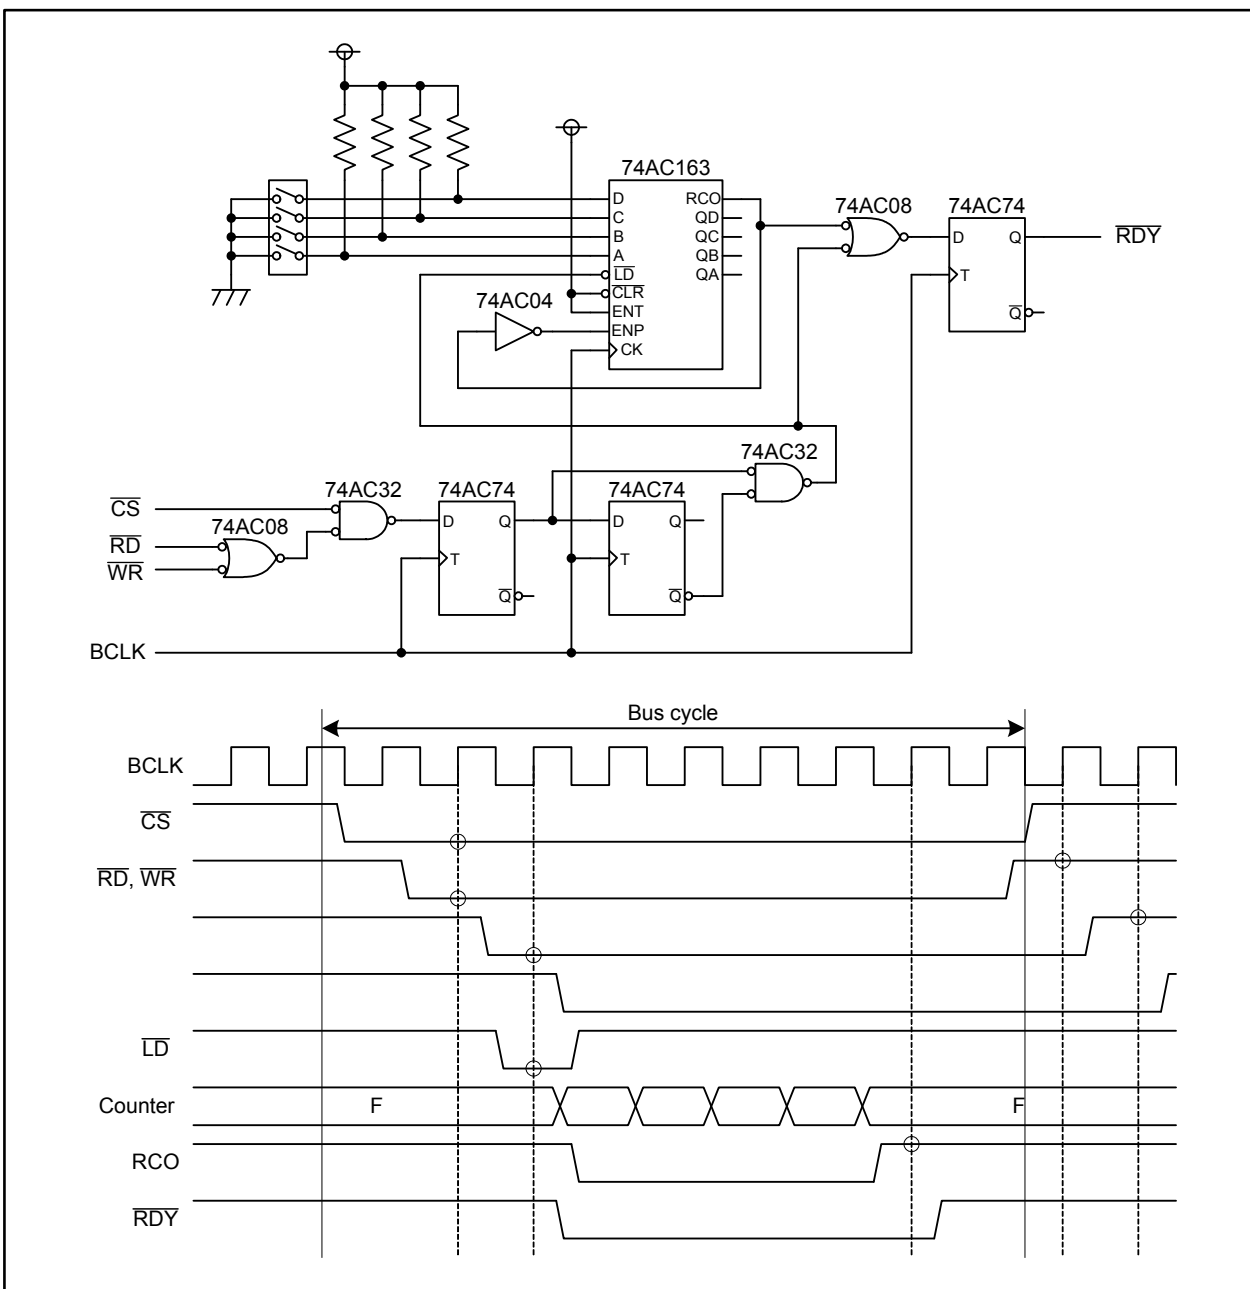
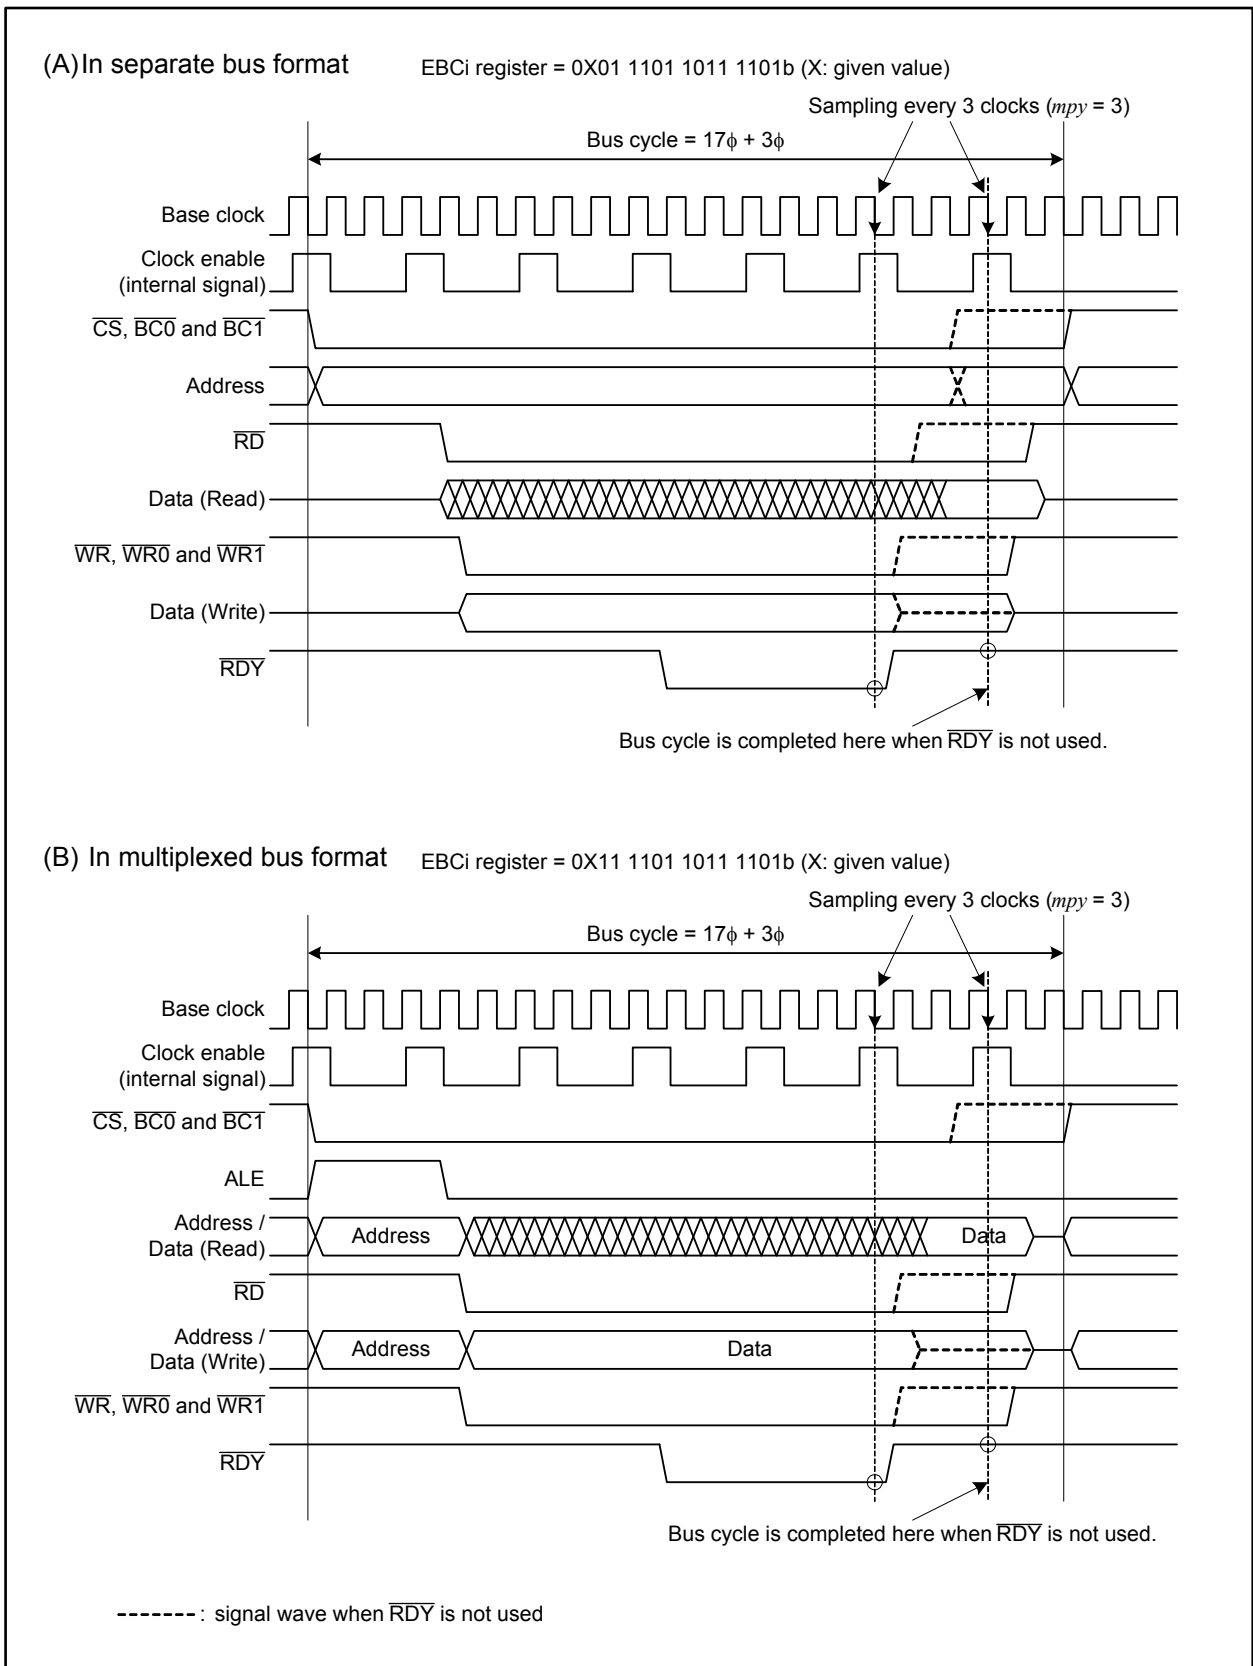

Figure 9.15  $\overline{\text{RDY}}$  Signal Generation Circuitry
Figure 9.16 An Example of Bus Cycle Extended by  $\overline{RDY}$  Signal ( $f(\text{BCLK}) = 1/2 f(\text{Base})$ ) ( $i = 0$  to 3)
Figure 9.15 shows an example of  $\overline{\text{RDY}}$  signal generator and Table 9.10 lists setting conditions of registers EBC0 to EBC3 to use this circuit. Figure 9.16 shows examples of bus cycle that is extended by the  $\overline{\text{RDY}}$  signal.
**Table 9.10 EBCi Register Setting Conditions when Using the Circuit in Figure 9.15 (i = 0 to 3)**